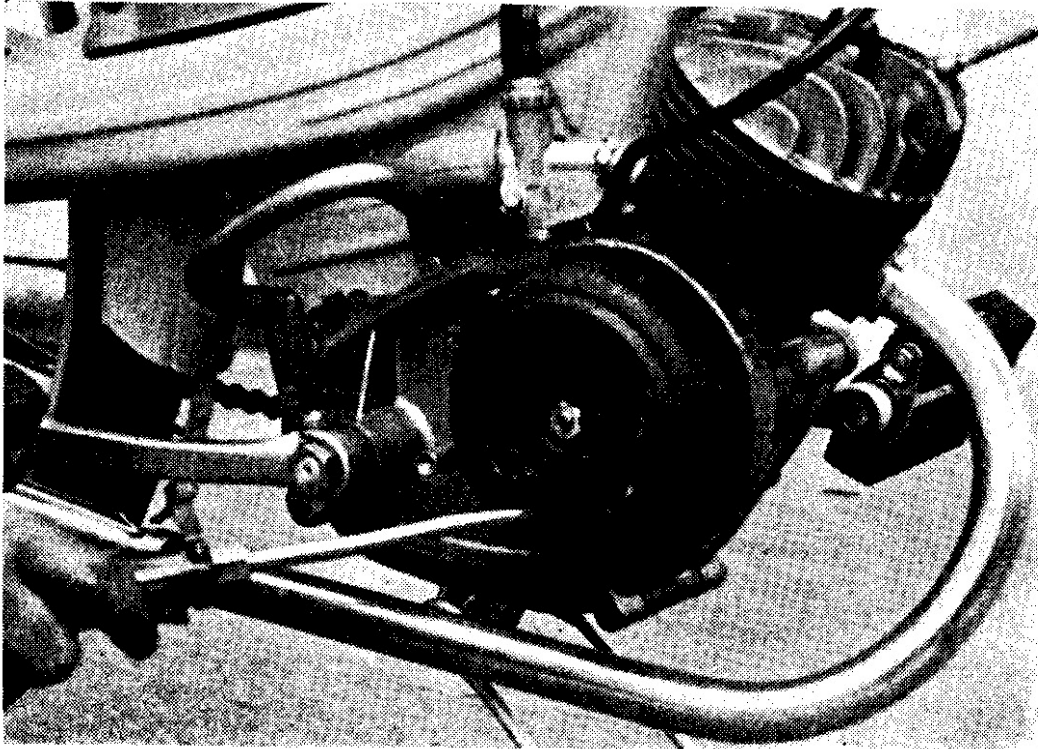

FIG. 22. THE FLYWHEEL
6. All electrical leads should be checked. The state of the contact-breaker points should be examined and the gap adjusted, if necessary. (See Chapter V, Section 7, and Fig. 22.)